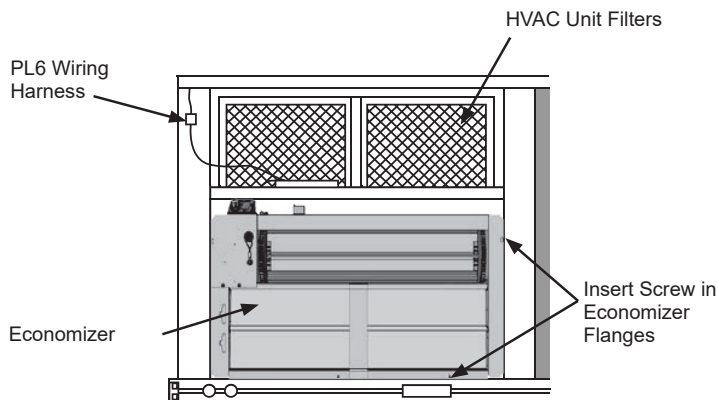

Fig. 2 - Economizer Installed on HVAC Unit
Step 4: Slide the economizer assembly into the rooftop unit. See **Figure 2**.
Step 5: Ensure economizer is square (tolerance +/- 1/32"). Screw the economizer to the unit along both side flanges and bottom flange. See **Figure 2**.